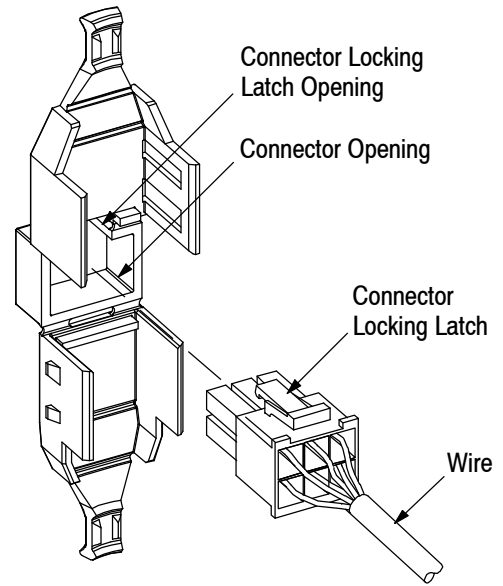

Figure 2
2. Align the connector with the connector opening of the strain relief as shown in Figure 2.